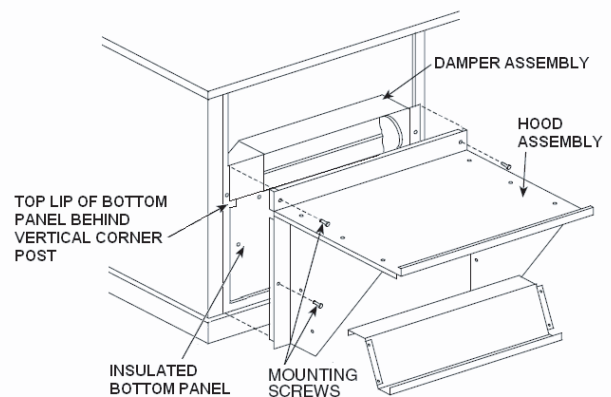

Fig. 3 - Damper and Hood Panel Installation
5. Install galvanized, insulated bottom panel per Fig. 3, with the slot at the top of the panel. The lip of the slot should fit behind the corner post as shown. Screw in place.
7. Lift damper assembly and set in place over the top of the bottom panel, per Fig. 3. Secure the damper assembly in place with provided screws.